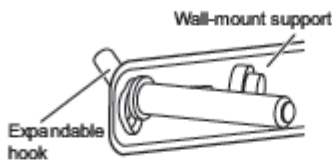

Fig.3
- Determine the installation position of the water heater. Based on the measurements indicated in at the botom of page 1, use impact drill to drill two holes of 12mm in diameter and 65mm in depth. Insert the expandable hooks into the holes and ensure that they are securely fixed. Lift the water heater and slip its wall mount support onto the expandable hooks (as show in Fig.3). Check to make sure the machine is securely suspended. For accessories such as safety valve, please refer to the "Installation of Safety Valve" (for reference only). Make sure to seal the joints with Teflon tapes to prevent water leakage.